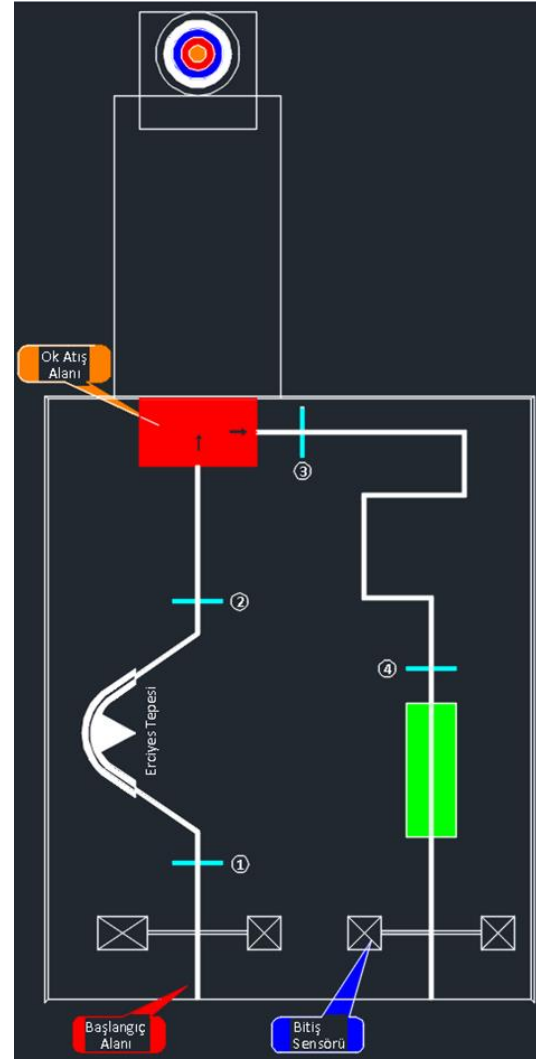

Figure 1b - Final Track (Track-B)
- In the final round, the robot will reach the exit gate by completing 5 90° turns after the shot (Figure 1b).